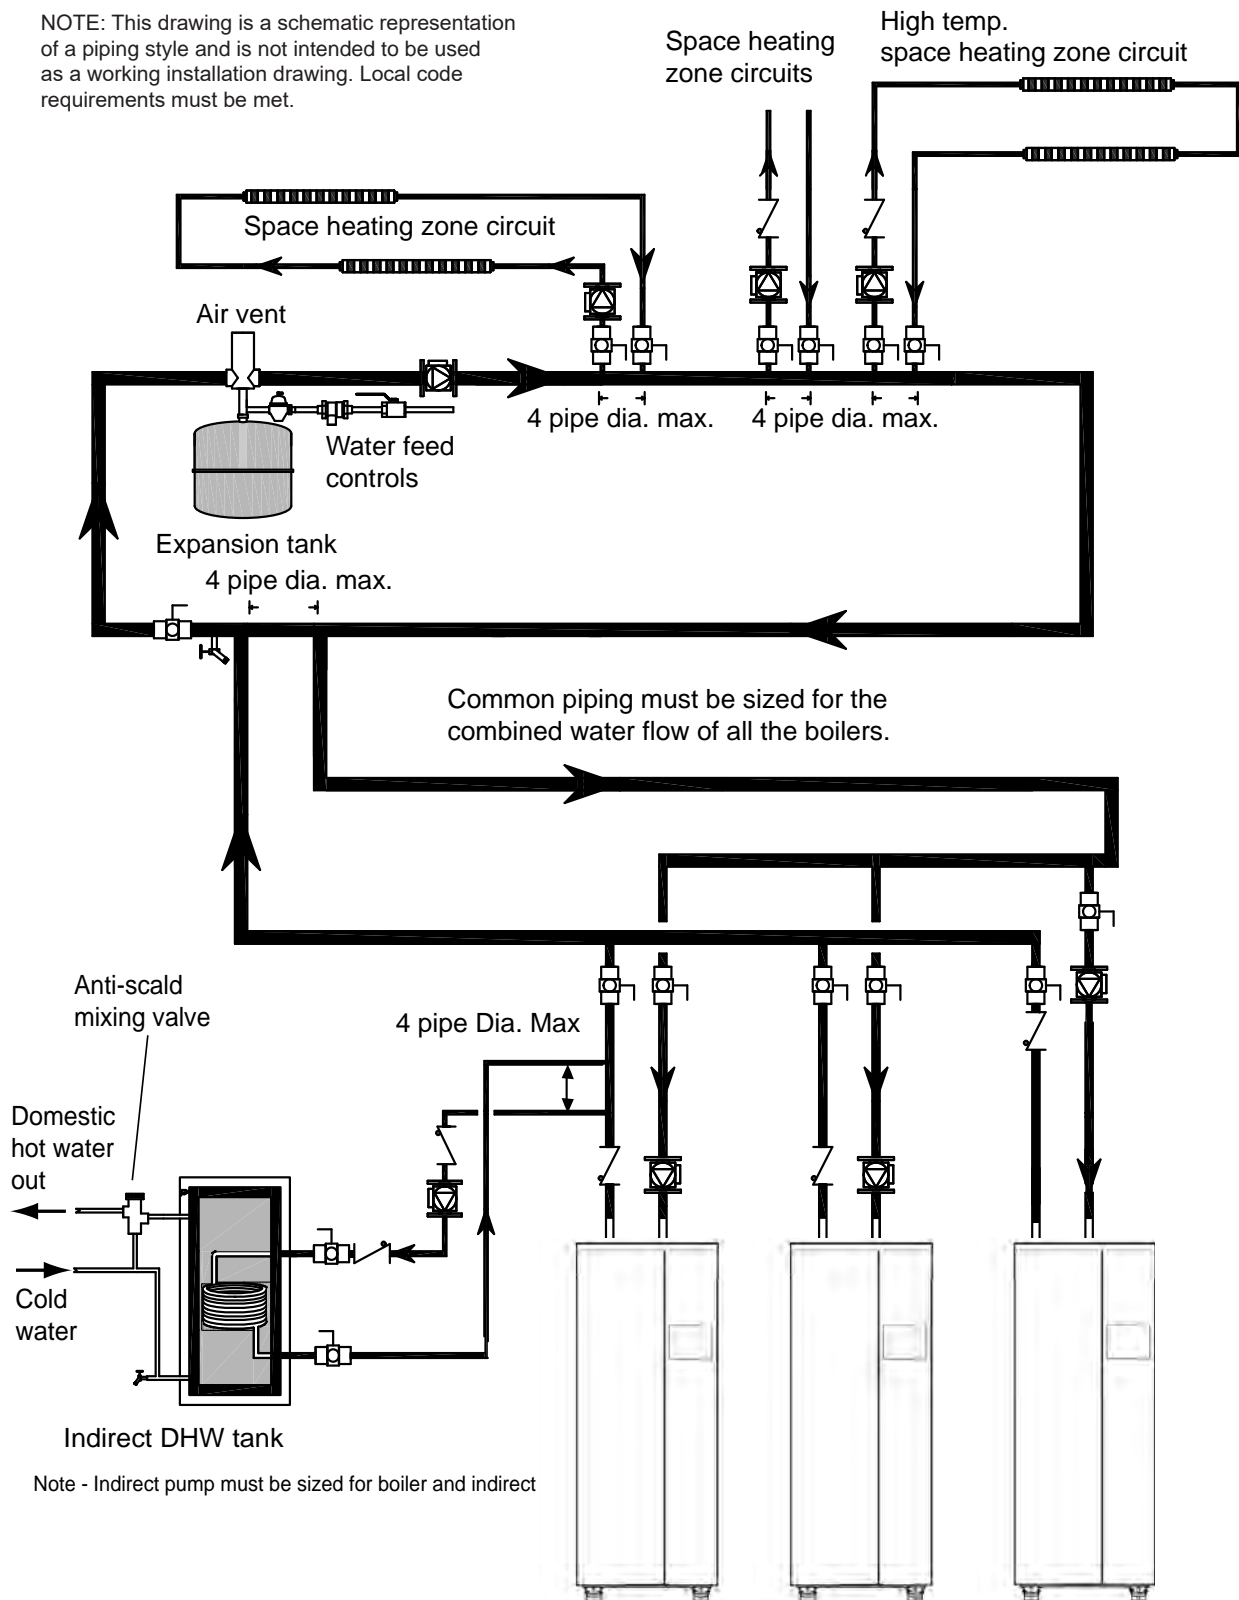

Figure 11. Boiler Piping — Multiple Boilers, Indirect DHW Off of One Boiler
Suggested piping diagrams are shown in Figure 8 through Figure 11. These diagrams are meant only as guides. Components required by local codes must be properly installed.
**This unit's efficiency is higher with lower return water temperatures.** Therefore, to get the best low return temperature with multiple boilers, pipe as shown in Figure 10 and Figure 11 on page 34.
Figure 8 on page 31 through Figure 11 on page 34 show suggested piping configurations for boilers. These diagrams are only meant as guides. All components or piping required by local code must be installed.